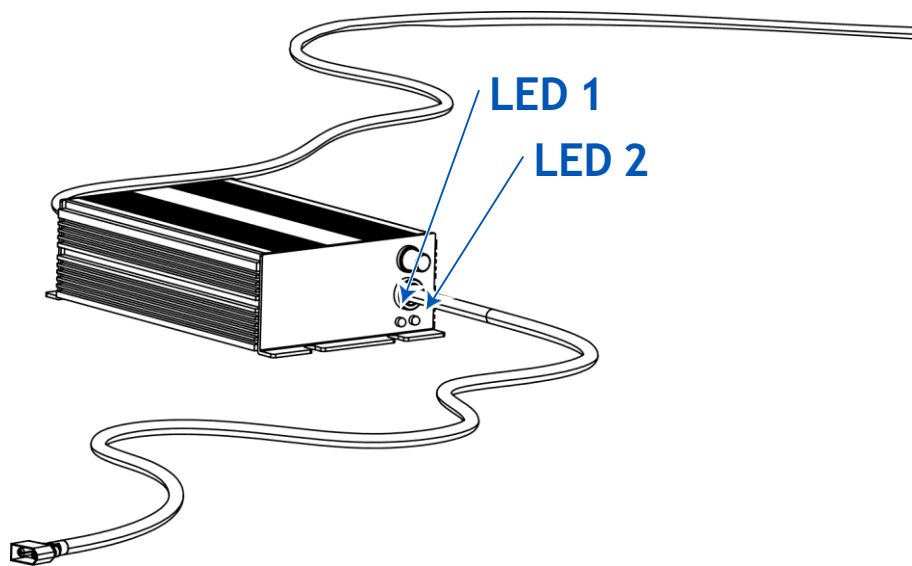

Fig. 5
1. You must plug the charger cable into the household plug (Fig. 4a). At this point, LED 1 on the charger will be red and LED 2 will be green (Fig. 5).